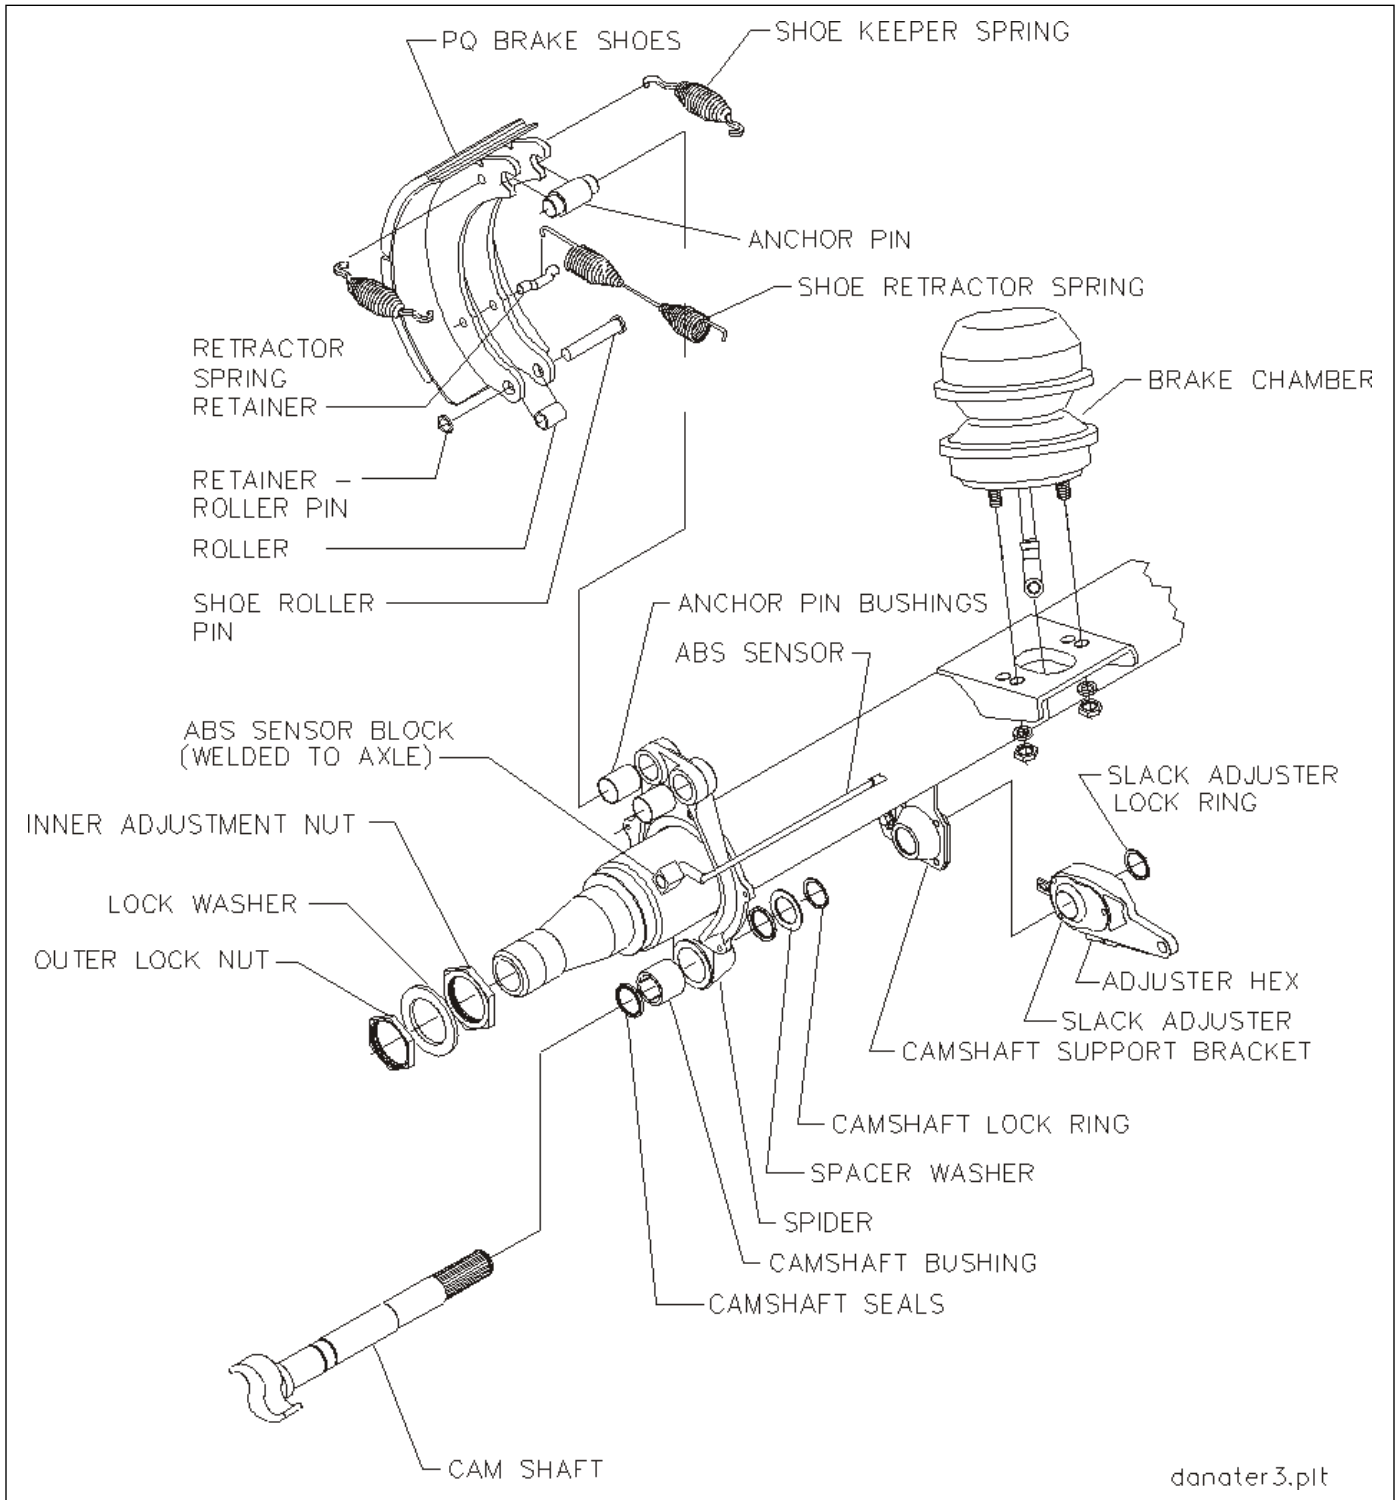

Figure 4-12: Axle and Brake Assembly
4. Disconnect the slack adjuster from the connecting rod by removing the clevis pin (See Figure 4-12.)
1. Release brakes and back off slack adjuster (See Figure 4-12.)